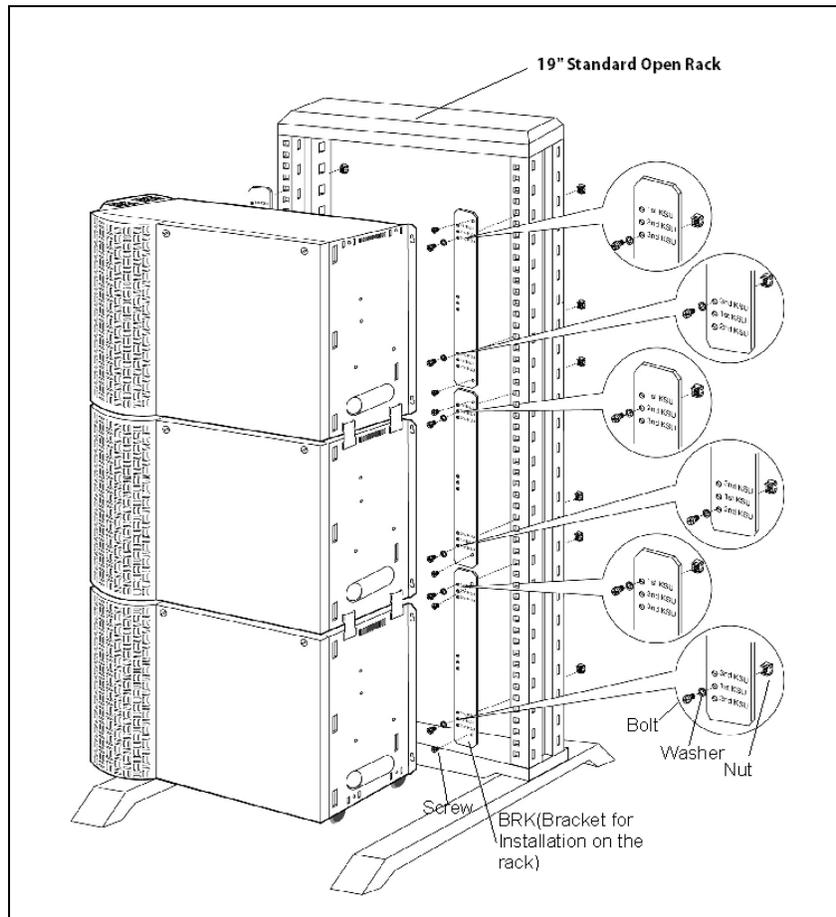

Figure 3-7: Optional Rack
2. After placing the rack on a flat floor, attach the Cabinet to the rack using provided BRK with bolts and nuts on both sides as shown in Figure 3-7.